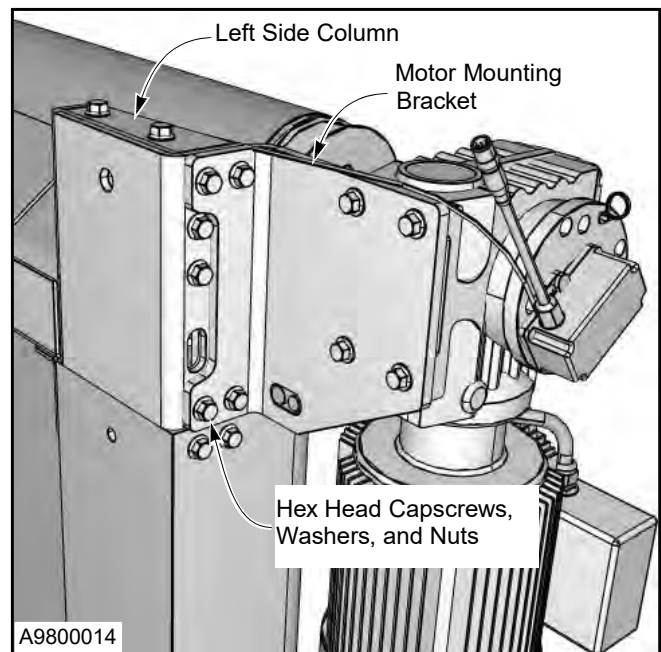

Figure 19
4. Position the head assembly so that the holes in the motor mounting bracket align with the holes in the side column. (See Figure 19)
5. Attach the motor mounting bracket to the side column using four  $\frac{3}{8}$ -16 x  $1\frac{1}{4}$ -in. head hex capscrews, washers, and nuts. **DO NOT** tighten the nuts at this time. (See Figure 19)